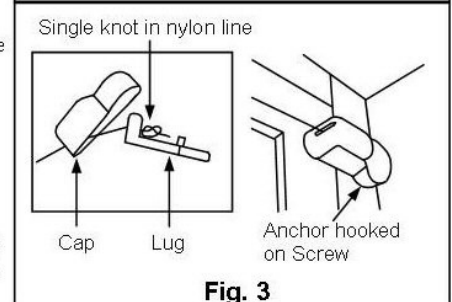

Fig. 3
**Step 4.** Gently lower the weights to the bottom of the tube. Thread the nylon line through the slot in the end of the anchor lug cover and then through the slotted post of the anchor lug (see Fig 3). Pull on the nylon line to lift the weight assembly 50 - 75mm off the bottom of the tube. Holding the line in this position check that the door opens fully without the top of the weights impacting the pulley box. If necessary, fit a stop to the upper or lower door track to limit door travel. Now tie a **single** knot in the nylon line and tighten it by pulling it firmly against the anchor lug post. After re-checking that the door will open fully, snip off the excess line and, pressing firmly, clip the cap onto the anchor lug. Finally, hook the lug onto the anchor screw.